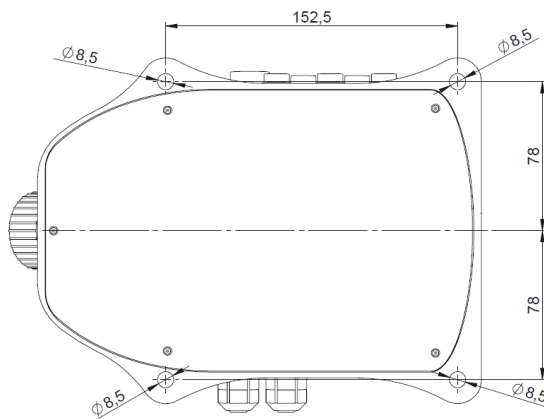

Figure 2 Fastening holes
8. When the KIT PRO is to be installed in a system, it must be fixed to a stable support by tightening the M8 screws into the Ø8.5 holes on the body (Figure 2).